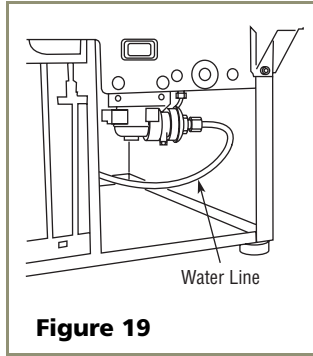

Figure 19
3. Carefully bend the water supply line into position and connect the line to the solenoid valve (see **Figure 19**). Avoid kinking the water supply line.